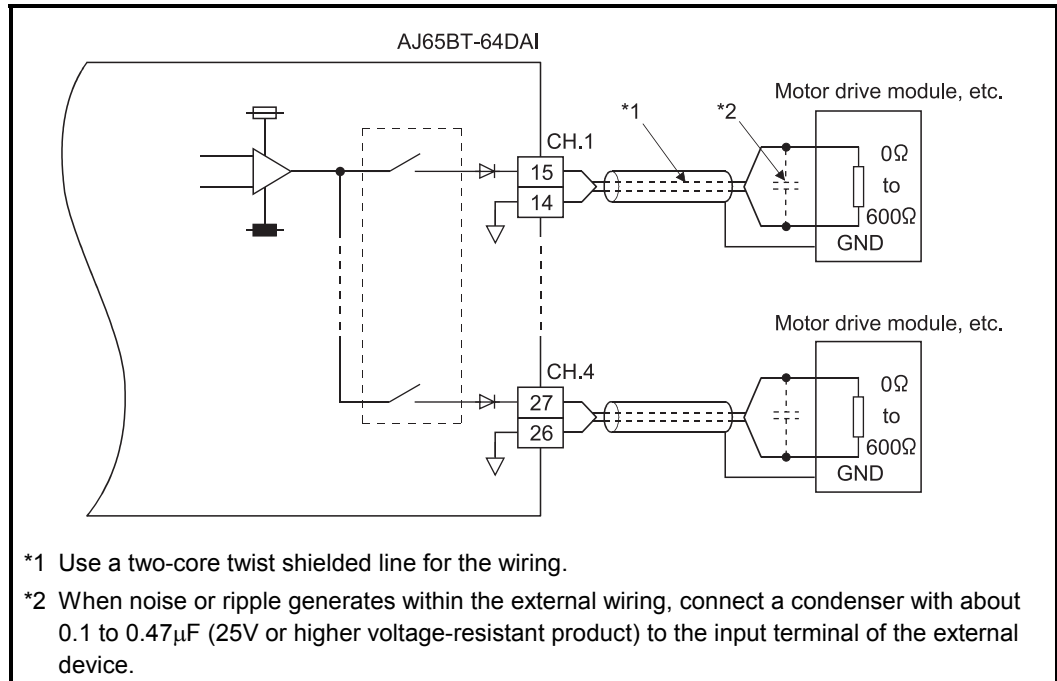

Figure 4.2 Wiring example of the AJ65BT-64DAI and external devices
(2) Wiring example of the AJ65BT-64DAI and external devices is shown in Figure 4.2.